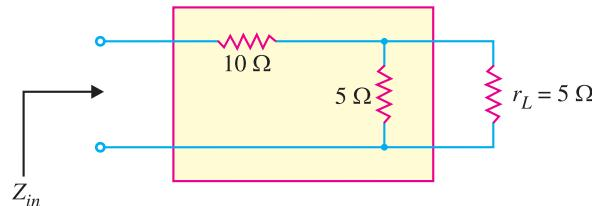

Fig. 24.9
**Example 24.3.** Find the (i) input impedance and (ii) voltage gain for the circuit shown in Fig. 24.9.
It means that output voltage is one-fifth of the input voltage. This can be readily established by inspection of Fig. 24.9. The two  $5\ \Omega$  resistors in parallel give a net resistance of  $2.5\ \Omega$ . Therefore, we have a voltage divider consisting of  $10\ \Omega$  resistor in series with  $2.5\ \Omega$  resistor.
**Comments.** The reader may note that in a simple circuit like that of Fig. 24.9, it is not advisable to use  $h$  parameters to find the input impedance and voltage gain. It is because answers of such circuits can be found directly by inspection. However, in complicated circuits, inspection method becomes cumbersome and the use of  $h$  parameters yields quick results.